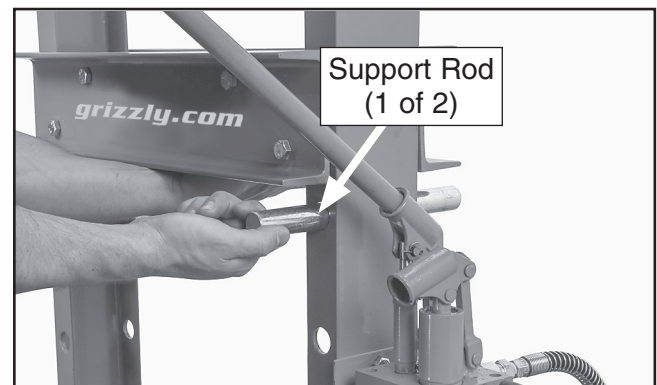

Figure 13. Inserting support rod.
2. Raise press bed to desired height, insert support rods, as shown in **Figure 13**, into holes in machine frame, then lower bed onto support rods.